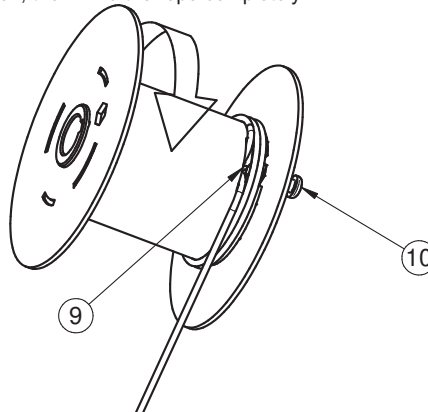

Fig. 4.5
5) Wind two complete turns of wire rope, keeping the rope in contact with the drum, then make a loop and insert it into the slot on the drum (ref.9 Fig.4.5), fully tighten the screw ref.10 Fig.4.5 so that it passes inside the loop, apply medium threadlocker to the screw and tighten, then wind the rope completely.